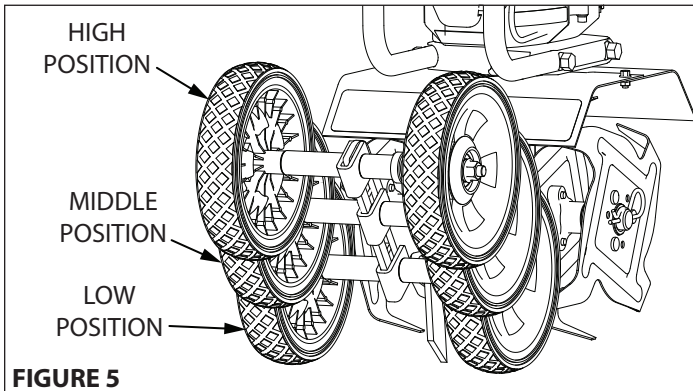

FIGURE 5
The wheels on the cultivator can be adjusted to one of three positions. The **LOW** wheel position is used for transporting the cultivator across a smooth level surface while the engine is not running. The **HIGH** and **HIGHEST** wheel positions are used when cultivating in soil and help stabilize the unit when cultivating at different depths. **SEE FIGURE 5**
**To Adjust Wheels Up Or Down do as follows: SEE FIGURES 5 & 6:**